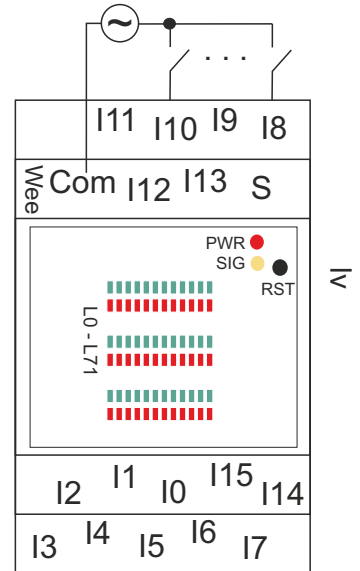

Fig 1. Diagram of the coupling connection
1. Note of the card PIN and Serial Number (SN) device (Both located on the housing of the device)
2. Connect the cables of high Com, S, I0-I15 acc to fig 1.